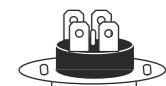

Fig. 15
- for FS2/FS4/FS6 series horizontal-type water heaters: press the button, located in the center of the thermal switch, placed near the heating element (with a round shape), until it clicks; Fig.15;